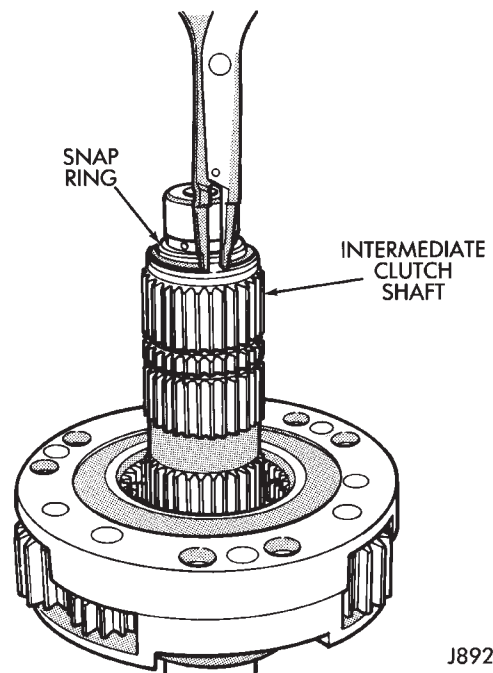

Fig. 18 Intermediate Clutch Shaft Snap Ring Removal
(29) Remove intermediate clutch shaft snap ring (Fig. 18).